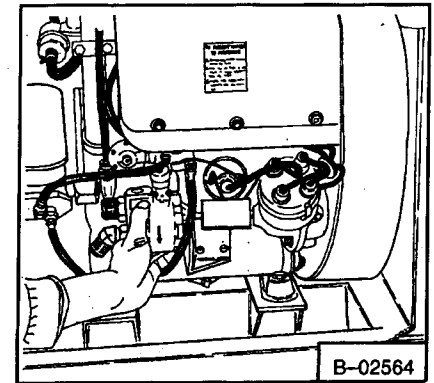

Fig. 4-56 Install Pump and Tool
3. Place pump into holding bracket and hold it in position (Fig. 4-56).
4. Slide tool over accessory drive shaft (Fig. 4-56).